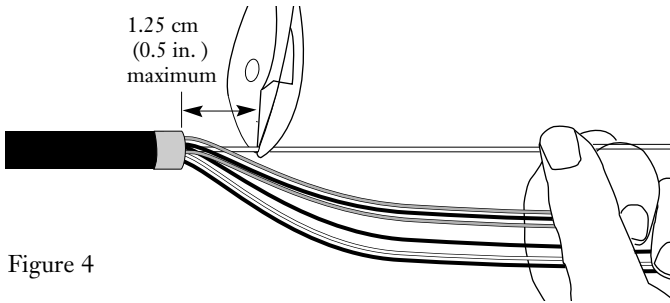

Figure 4
5.4 Carefully remove the aramid yarn and central member as close as possible to the cable sheath end (Figure 4). The central member must not extend more than 1.25 cm (0.5 inches) from the cable sheath end.